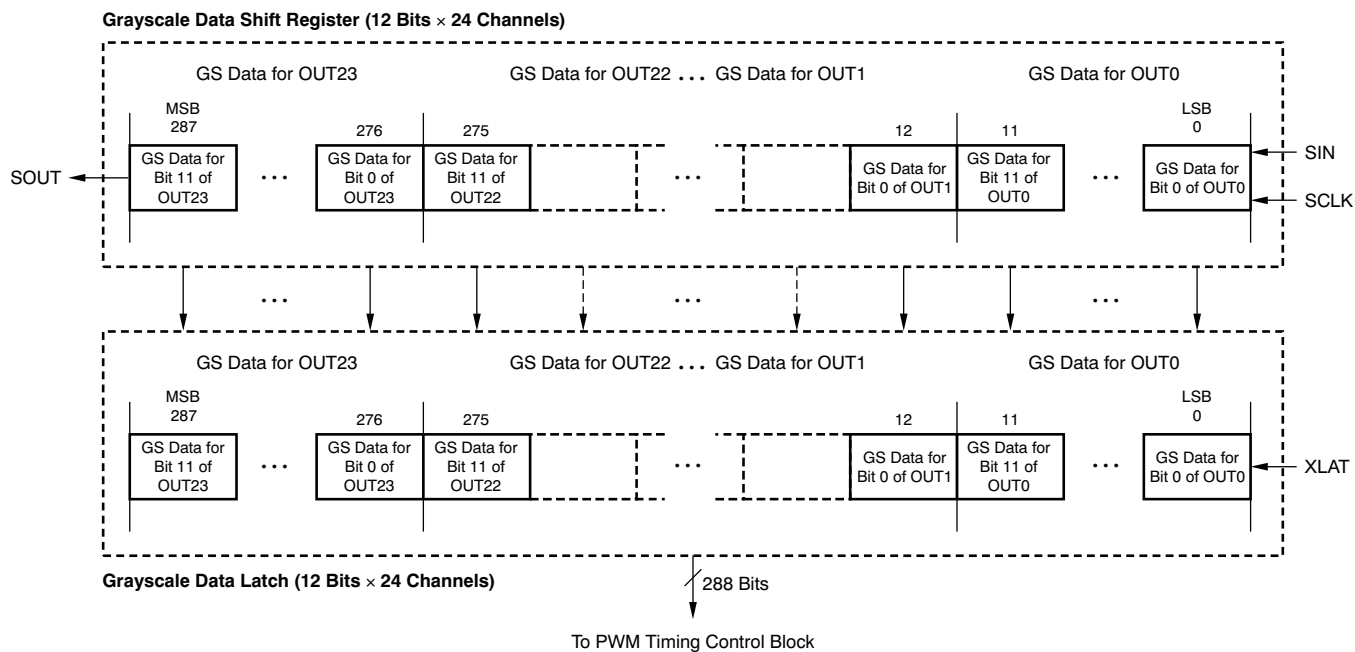
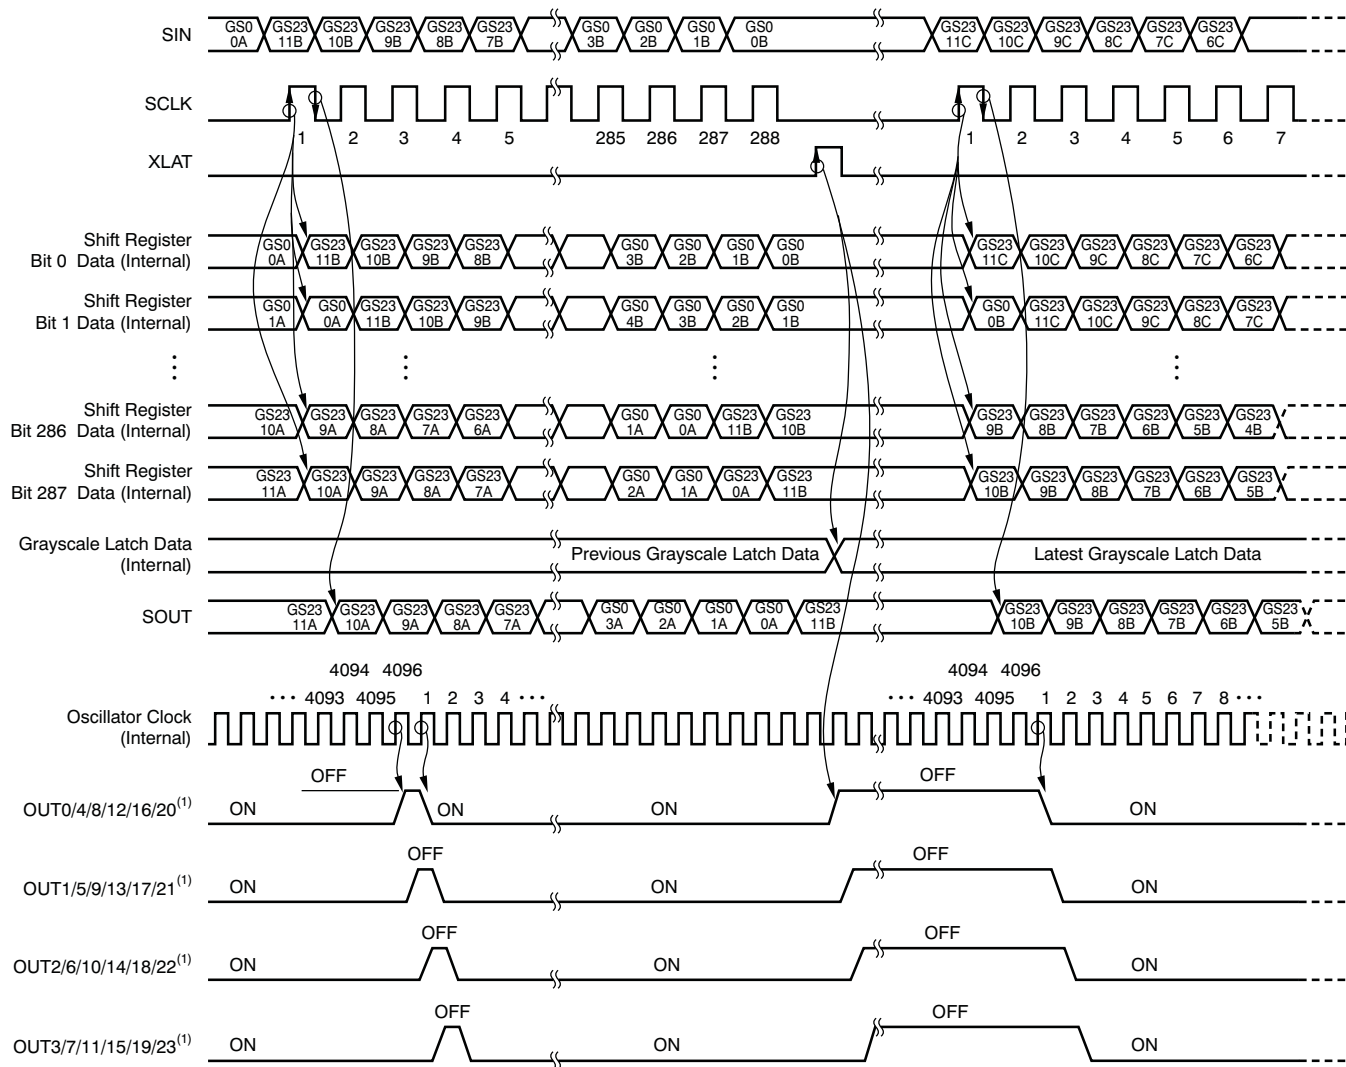

Figure 21. Grayscale Data Shift Register and Latch Configuration
Figure 22. Grayscale Data Write Operation
The TLC5947 has a grayscale (GS) data shift register and data latch. Both the GS data shift register and latch are 288 bits long and are used to set the PWM timing for the constant-current driver. Table 1 shows the on duty cycle for each GS data. Figure 21 shows the shift register and data latch configuration. The data at the SIN pin are shifted to the LSB of the shift register at the rising edge of the SCLK pin; SOUT data are shifted out on the falling edge of SCLK. The timing diagram for data writing is shown in Figure 22. The driver on duty is controlled by the data in the GS data latch.